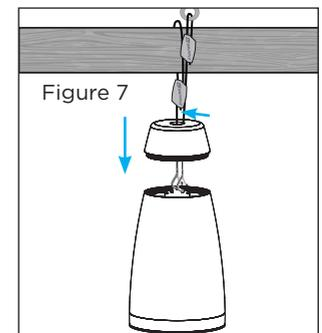

Figure 7
6. After height adjustment is final, trim any extra cable tail wires with trimmer suitable for 2mm (0.077") diameter stranded aircraft-type cable. Screw back on top cover of speaker after speaker wire is connected (see Figure 7).